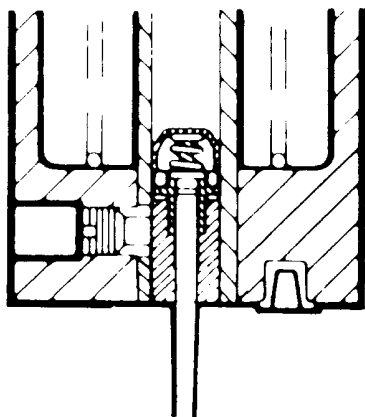

Fig. B31. Needle guide setting to be flush with piston lower face
d. Use a new retaining screw and new needle guide ensuring that the needle guide gives the needle bias in the direction of the rear of the machine. Before tightening the retaining screw, check that the level of the top of the guide is correct relative to the piston face - ie. flush with the face of the piston. Fig. B31.